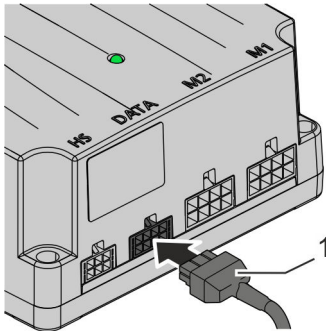

Fig. 23: Connecting the BUS cable (control)
1. ➤ Connect the BUS cable (Fig. 23/1) to the DATA interface on the control.